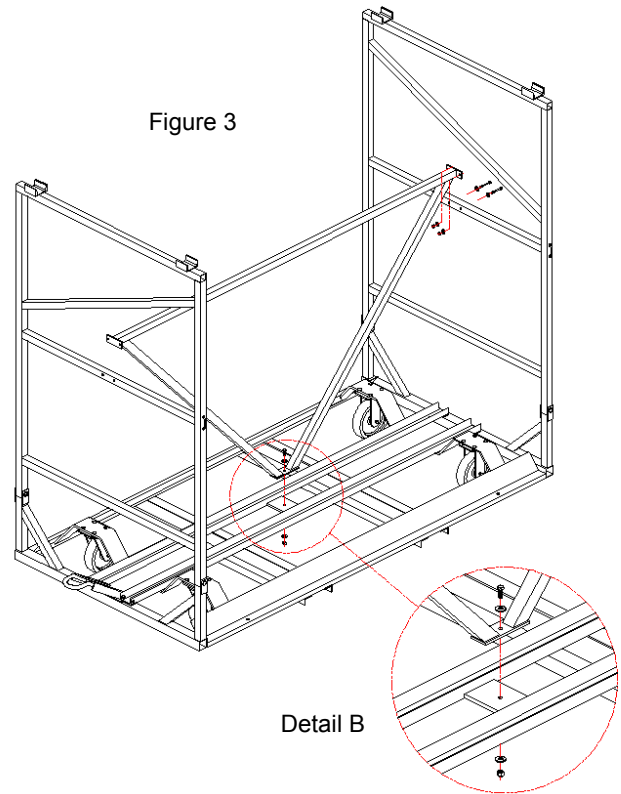

Figure 3
5. Attach the Crossbar to the Base with the 1" long, 3/8" hex bolt, 3/8" washers, and 3/8" Nyloc nut (Figure 3, Detail B). Hand Tighten.